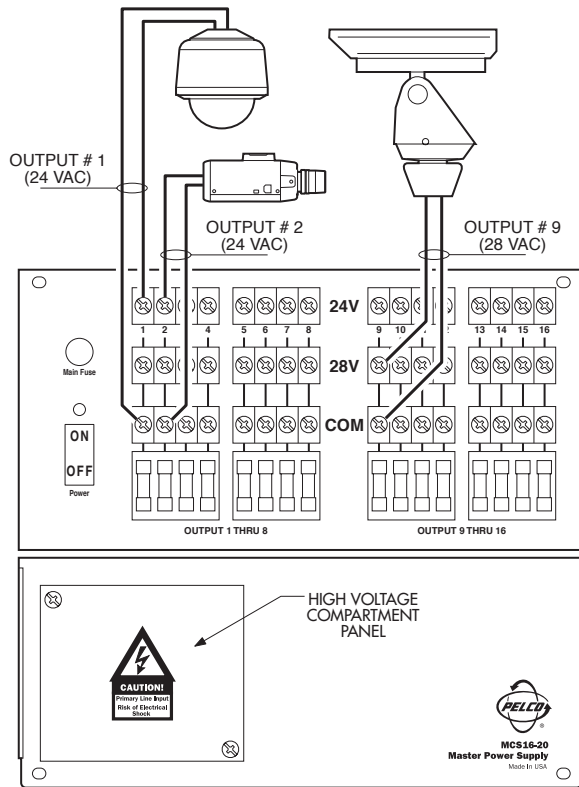
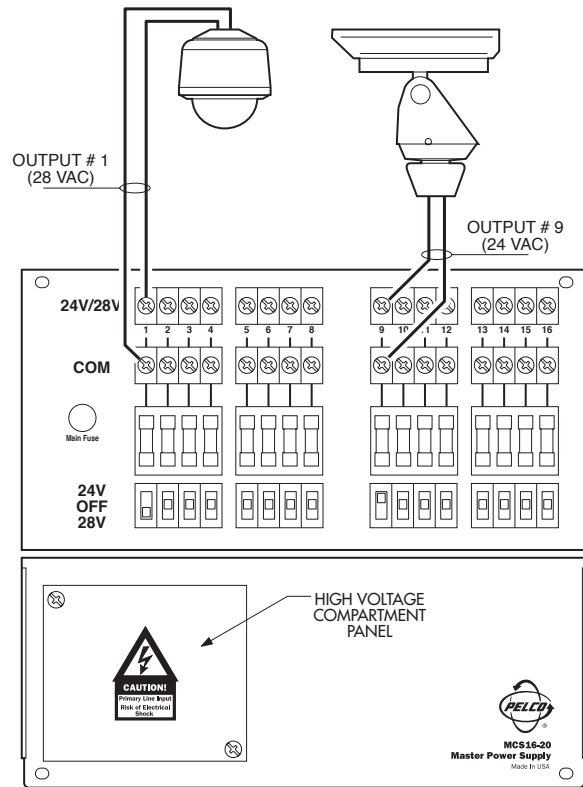

Figure 2. MCS Unit Wiring Connector Diagram
Figure 3. MCS "S" and "SB" Unit Wiring Connector Diagram
2. Refer to Figure 2 or 3. Remove the high-voltage compartment panel inside the box. Set the input voltage selector switch inside the compartment to the appropriate line voltage. The switch is set at the factory for 120 VAC line voltage.
2. Refer to Figure 2 (or Figure 3 for "S" and "SB" models) for the proper connector strip connections, and do one of the following: